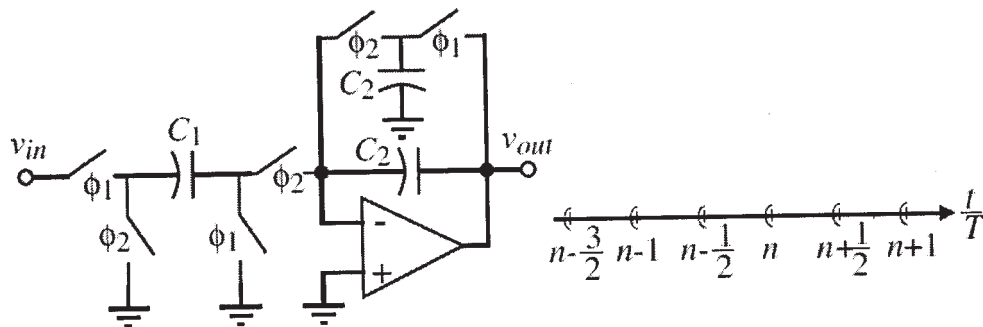
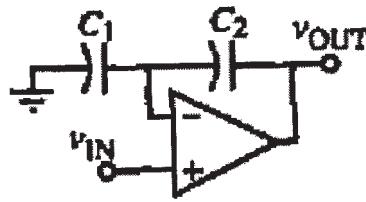

Fig. 1
Fig.2
- b) The switched capacitor circuit in Fig. 1 is an amplifier that avoids shorting the output of the op amp ground during the Φ_1 phase period. Use the clock scheme shown along with the timing and find the z-domain transfer function, $H^{oo}(z)$. Sketch the magnitude and phase shift of this amplifier from zero frequency to the clock frequency, f_c . [5]
- Q2)** a) What are the advantages of Switched Capacitor (SC) circuits on Continuous Time circuits? What are the demerits of Switched Capacitor circuits? [4]
- b) For the Non-Inverting charge amplifier in the Fig. 2, find the transfer function in s-domain and evaluate the influence of finite gain and gain bandwidth. Assume $A_{vd}(0) = 10,000$ and unity gain bandwidth to be 1 MHz and $C_1/C_2 = 9$. [3]
Q4) a) Consider the 3 tap FIR filter shown in fig. 1 and its finegrain pipelined version in fig. 2. Assume that the multiplication operation takes 10 u.t. and the addition operation takes 2 u.t. For power estimation purposes, assume that the capacitance of the multiplier is 5 times that of an adder. In the fine-grain pipelined filter the multiplier is broken into 2 parts, m_1 and m_2 . with computation time of 6 u.t. and 4 u.t. respectively, with capacitance 3 times and 2 times that of an adder, respectively. Assume the device threshold voltage to be 0.6 V. also assume the nonpipelined filter to be operated at the supply voltage 5 V. [4]